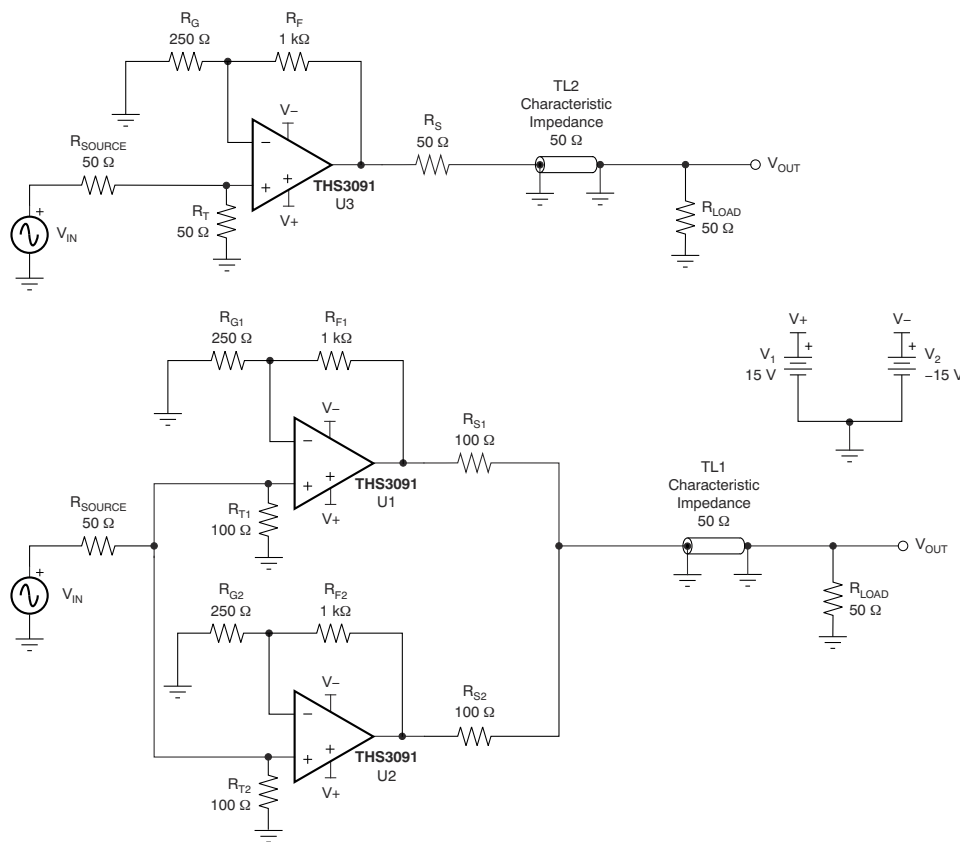

图 9-1. Reference THS3091 and THS3091 Load Sharing Test Configurations
The fundamental concept of load sharing is to drive a load using two or more of the same operational amplifiers. Each amplifier is driven by the same source. 图 9-1 illustrates the schematic for this design. This concept effectively reduces the current load of each amplifier by  $1/N$ , where  $N$  is the number of amplifiers. For further details on the design and performance of this circuit, see the Reference Design for Implementation of the Load Sharing Concept for Large-Signal Applications.
As shown in 图 9-1 for example, in a two-amplifier load sharing configuration with matching resistance driving a resistive load (RL), each series resistance is 2×RL and each amplifier drives 2×RL. A convenient indicator of whether an op amp will function well in a load sharing configuration is the characteristic performance graph of harmonic distortion versus load resistance. 图 7-9 and 图 7-10 show more information. Such graphs can be found in most of TI's high-speed amplifier data sheets. These graphs can be used to obtain a general sense of whether or not an amplifier will show improved distortion performance in load sharing configurations.
图 9-1 shows two test circuits: one for a single THS3091 amplifier driving a double-terminated (50-Ω cable), and one with two THS3091 amplifiers in a load sharing configuration. In the load sharing configuration, the two 100-Ω series output resistors act in parallel to provide 50-Ω back-matching to the 50-Ω cable.
图 9-4 and 图 9-5 show the 64-MHz sine wave outputs of the two configurations from 图 9-1. While the single THS3091 output is clearly distorted in 图 9-4, the output of the load sharing configuration in 图 9-5 shows only minor deviations from the ideal sine wave.